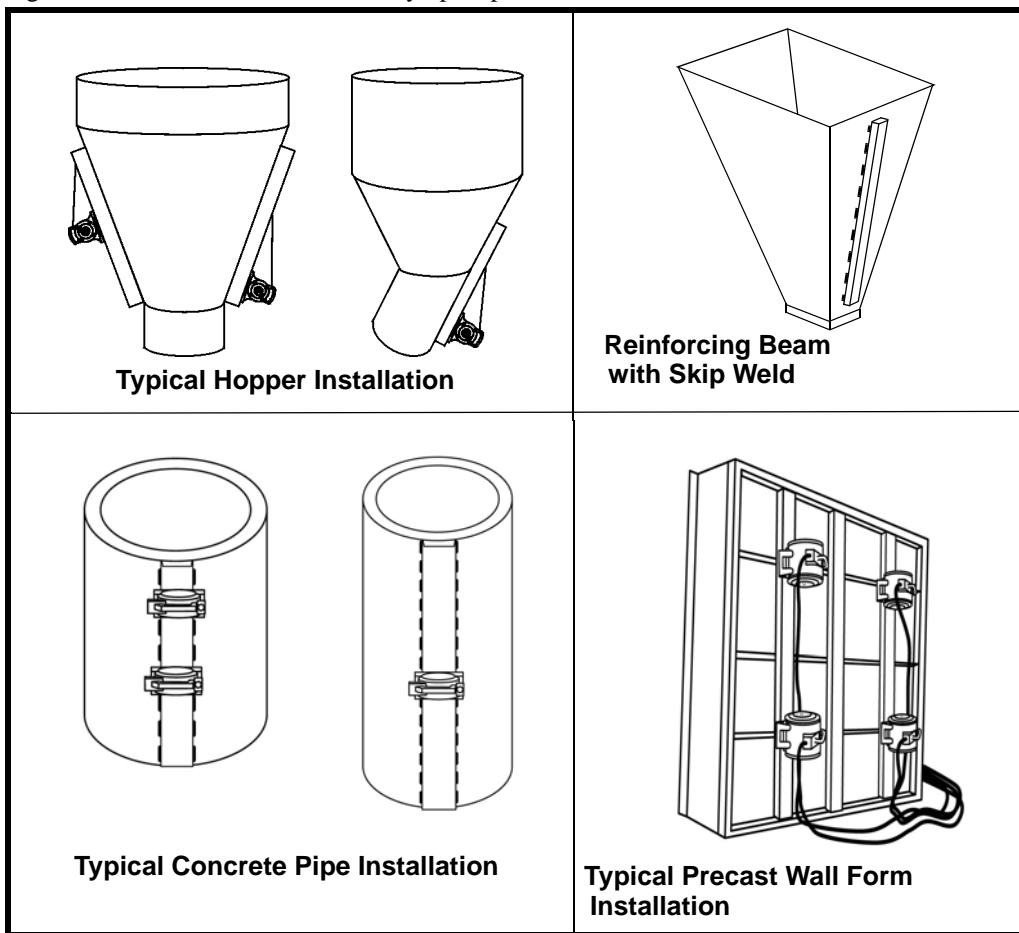

Figure 1. Locating Vibrators and Reinforcing Beams on Hoppers
3. See figure 1. Locate vibrator in lower 1/4 to 1/3 of structure slope length. If second vibrator is needed, mount 180 degrees from first vibrator and halfway up slope.
4. If necessary, install reinforcing beam to strengthen chute wall (see figure 1). Skip weld beam in place: Weld 3 in. (76 mm) then skip 2 in. (51 mm). Repeat for entire perimeter of beam. Do not weld last 1 in. (25 mm) of either end of beam or any corner. Make sure beam extends at least 3/4 the length of structure from top to bottom.